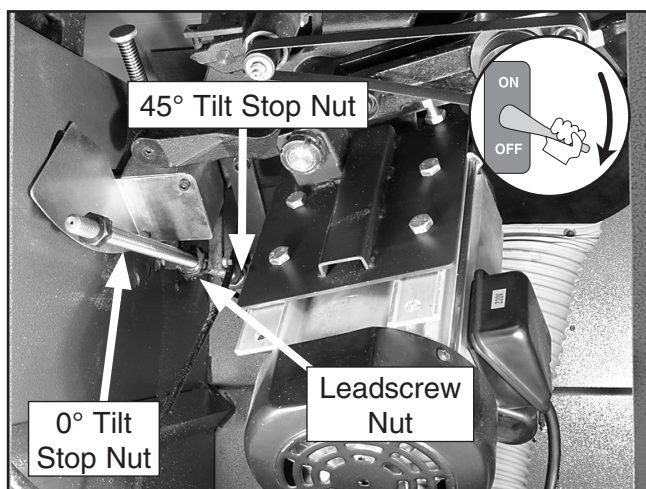

Figure 79. Blade tilt stop nuts.
4. If a gap exists at either the top or bottom of the square, loosen the set screw in the 0° tilt stop nut shown in **Figure 79**.
9. If variations exist, loosen the set screw in the 45° tilt stop nut (**Figure 79**) and adjust the stop nut until the blade and square match.